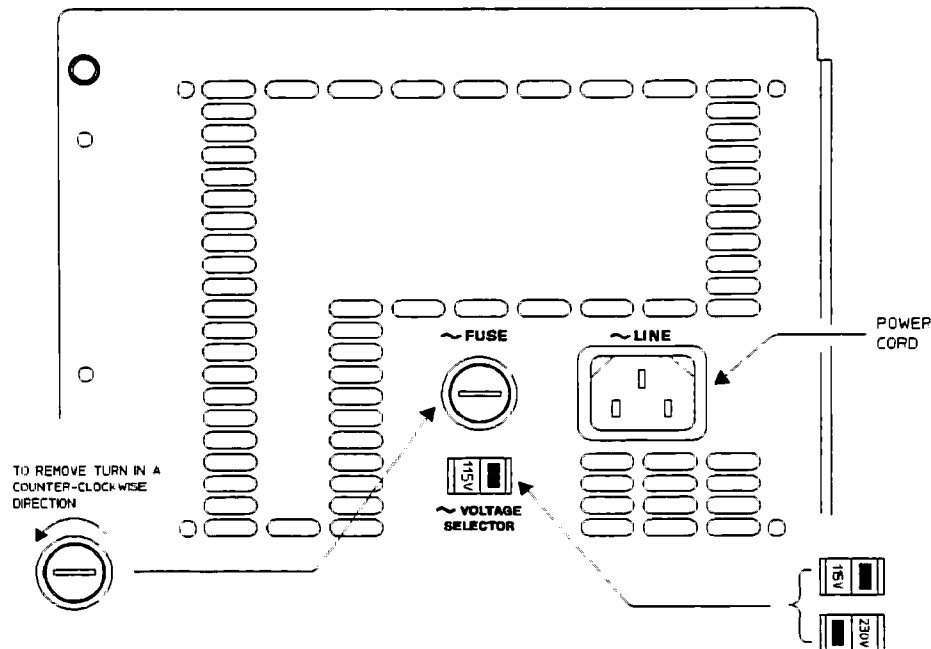

Figure 2-1. Analyzer Voltage Selection and Fuse Replacement
The line-voltage selector switch is set at the factory to match the most commonly used line voltage of the country of destination; the appropriate fuse is also installed. To check or change either the line-voltage selector switch or the fuse, see figure 2-1, table 2-1, and the following procedures.
2. Slide the line voltage selector switch (see figure 2-1) to the proper voltage (see table 2-1) and install the proper fuse for the voltage selected.
2. Using a coin or screw driver, turn the fuse holder cap counter-clockwise and remove when the fuse cap is free from the housing (see figure 2-1).